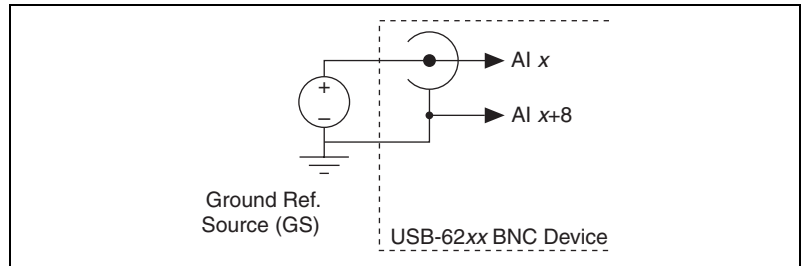

Figure A-49. Single-Ended Channels
- Single-Ended Mode**—For each BNC connector that you use for two single-ended channels, set the source type switch to the GS position. This setting disconnects the built-in ground reference resistor from the negative terminal of the BNC connector, allowing the connector to be used as a single-ended channel, as shown in Figure A-49.